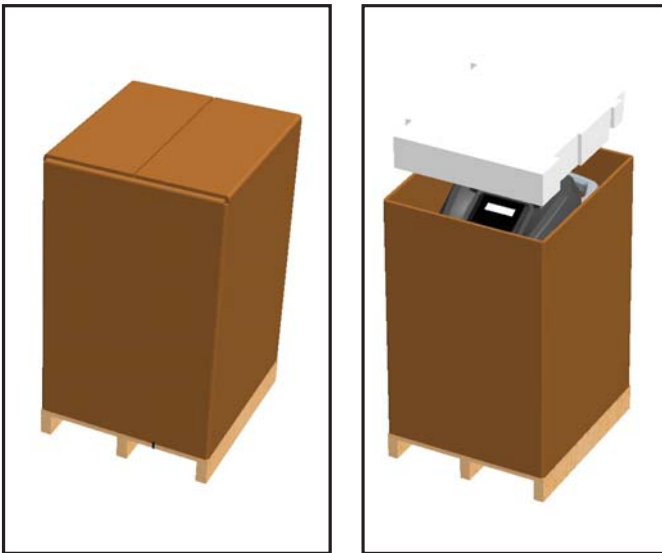

Fig. 9: Removing carton
1. Cut the straps and remove the carton (Fig. 9)